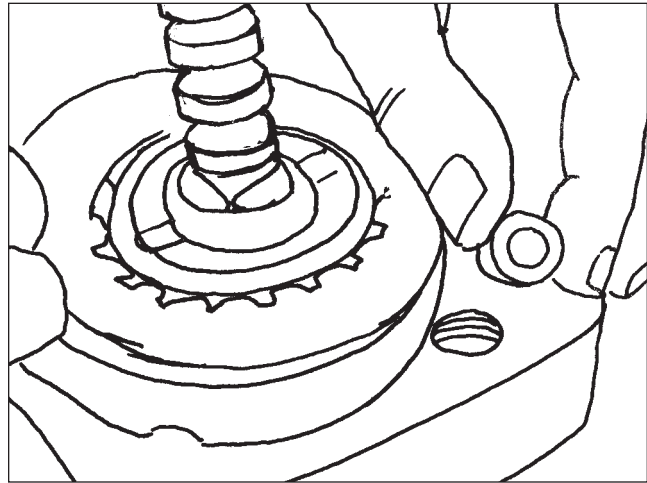

Figure 62
2. Remove and discard the seal ring & tetra seal (**Figure 62**).